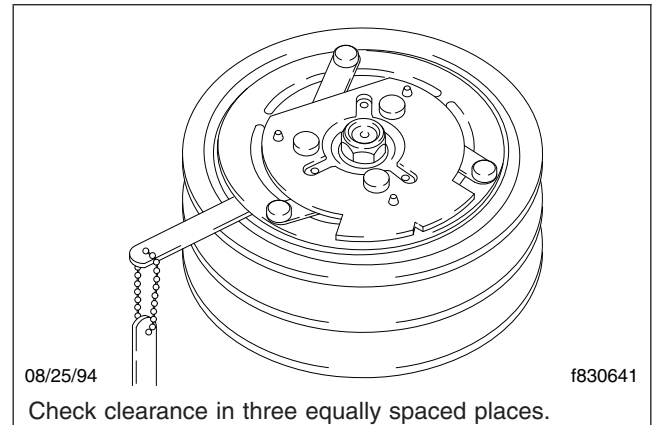

Fig. 1, Drive-Plate Clearance Inspection
4. Using a feeler gauge, check that the drive plate clutch clearance is within limits. See **Table 1** for clearance specifications. See **Fig. 1** for the checking method. If the drive plate clutch re-